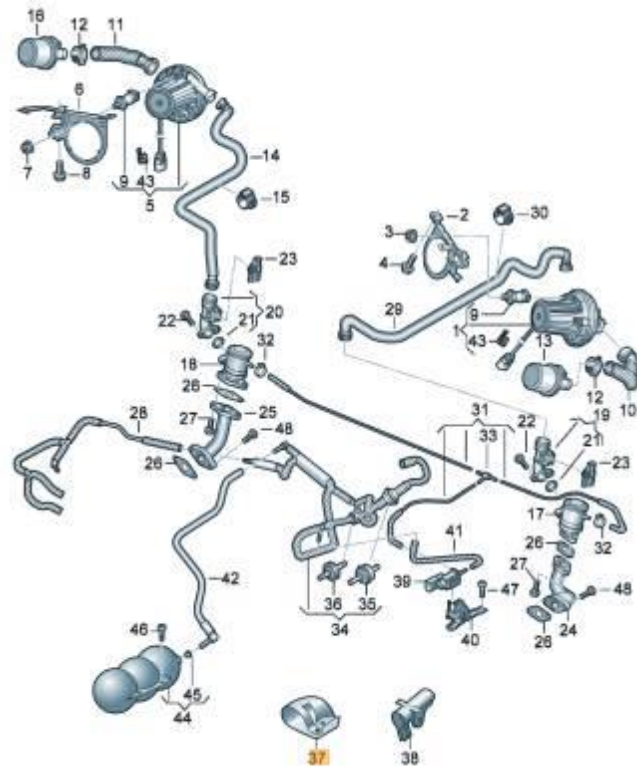

Figure 1. Replace the sender.
2. Then add the insulation (Figure 1, number 37) on the pressure sensor Bank 2.